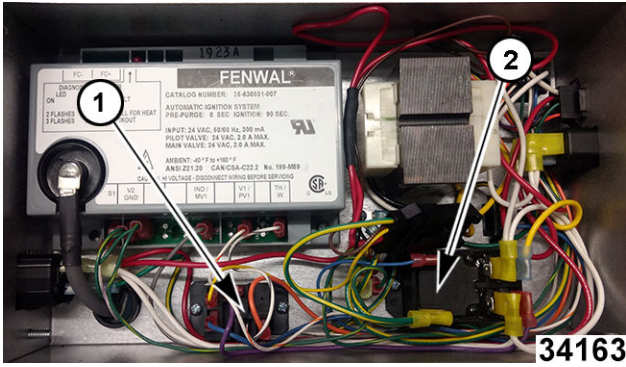

Fig. 80
3. Note and disconnect oil return solenoid relay (1, Fig. 80) and pump relay (2, Fig. 80) wiring.